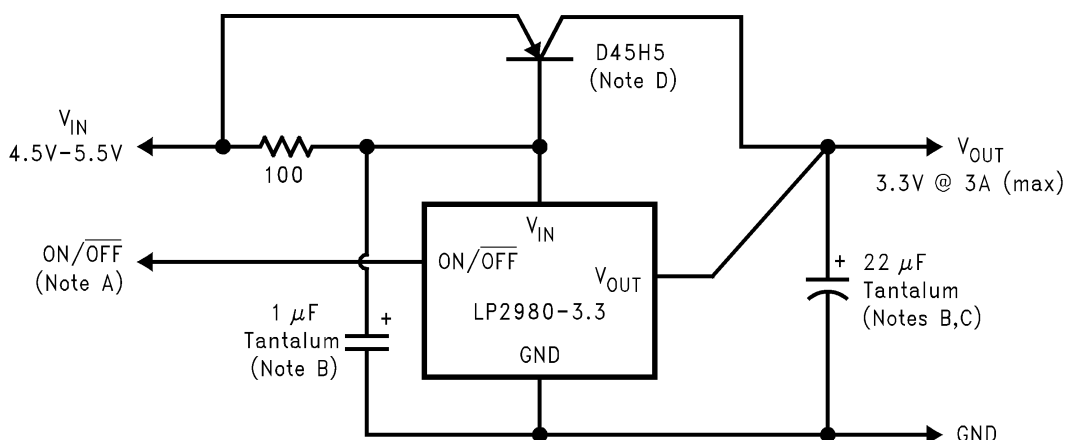
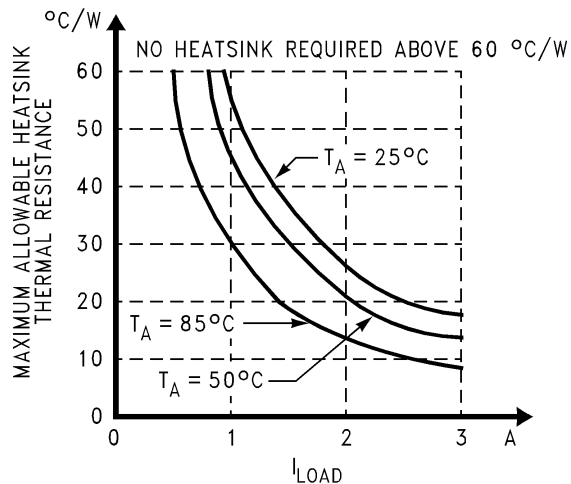

Figure 38. 5 V to 3.3 V at 3-A Converter
Figure 39. Heatsink Thermal Resistance Requirements for Figure 38
With limited input voltage range, the LP2980-N can control a 3.3-V, 3-A regulator with the use of a high current-gain external PNP pass transistor as shown in Figure 38. If the regulator is to be loaded with the full 3 A, heat sinking will be required on the pass transistor to keep it within its rated temperature range. See Figure 39. For best load regulation at the high load current, the LP2980-N output voltage connection should be made as close to the load as possible.
4. A heatsink may be required for this transistor. The maximum allowable value for thermal resistance of the heatsink is dependent on ambient temperature and load current (see curves in Figure 39). Once the value is obtained from the graph, a heatsink must be selected which has a thermal resistance equal to or lower than this value. If the value is above 60°C/W, no heatsink is required (the TO-220 package alone will safely dissipate this).